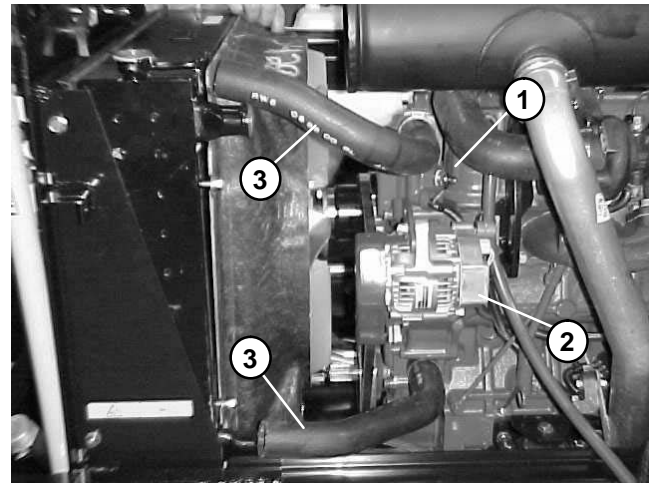

Figure 10
- A. The temperature sender and alternator (Fig 10). Note: red wire attached to alternator with washer, nut, and boot does not have to be removed.